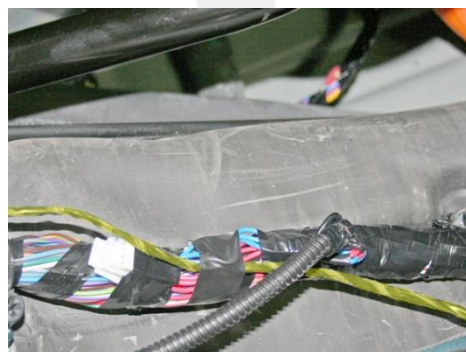

Figure 27 (TPMS harness highlighted)
33. At the base of the C-Pillar, use electrical tape to secure the TPMS harness to the main RH main harness (Figure 27).